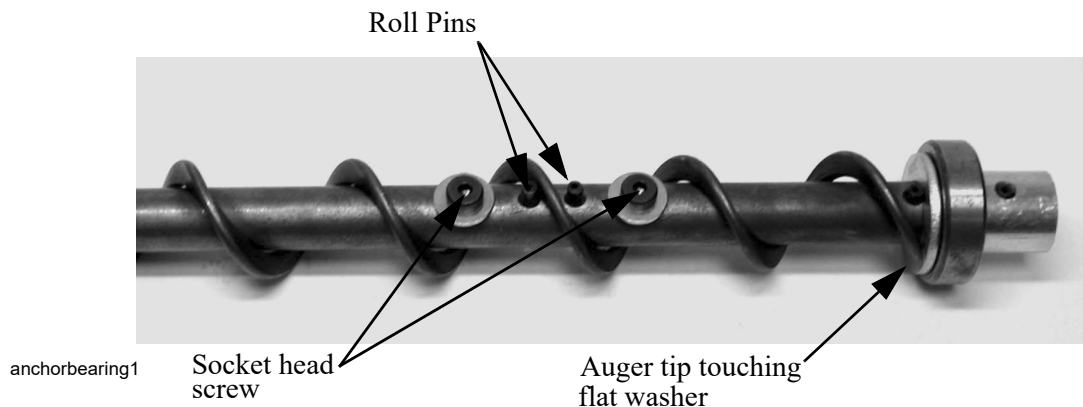

Figure 41. Anchor Bearing
15. Insert the Anchor Assembly into the auger until it touches the washer at the back of the anchor. Tighten the setscrews in the center of the anchor until they touch the auger, then tighten a maximum of 1/2 turn. See **Figure 41**. Do Not Over-tighten Set Screws.